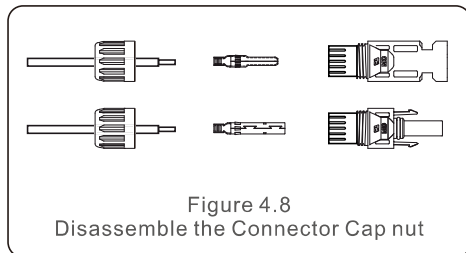

Figure 4.8
1. Strip off the DC wire for about 7mm, Disassemble the connector cap nut. (see Figure 4.8)